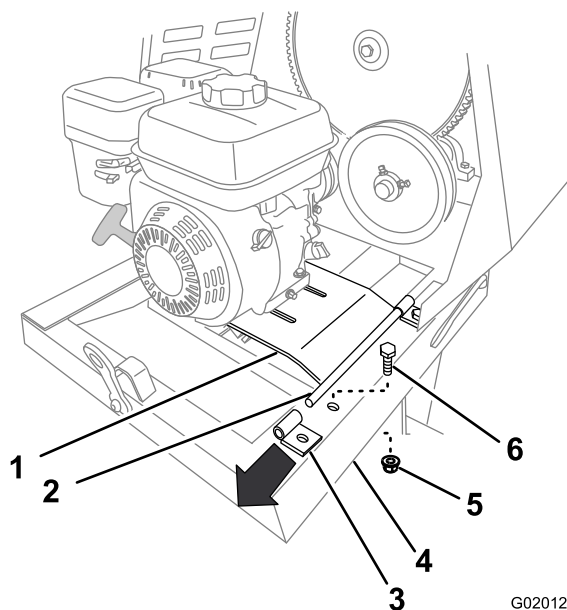

Figure 50
6. Remove the bolt and nut that secures the rear bracket for the engine deck hinge to the frame of the machine (Figure 50).
7. Lift up on the rear edge of the engine deck and remove the hinge bracket (Figure 50).
6. Secure the rear bracket to the frame of the machine using the bolt and nut (Figure 50) removed in step 6 of Removing the Engine (page 31).